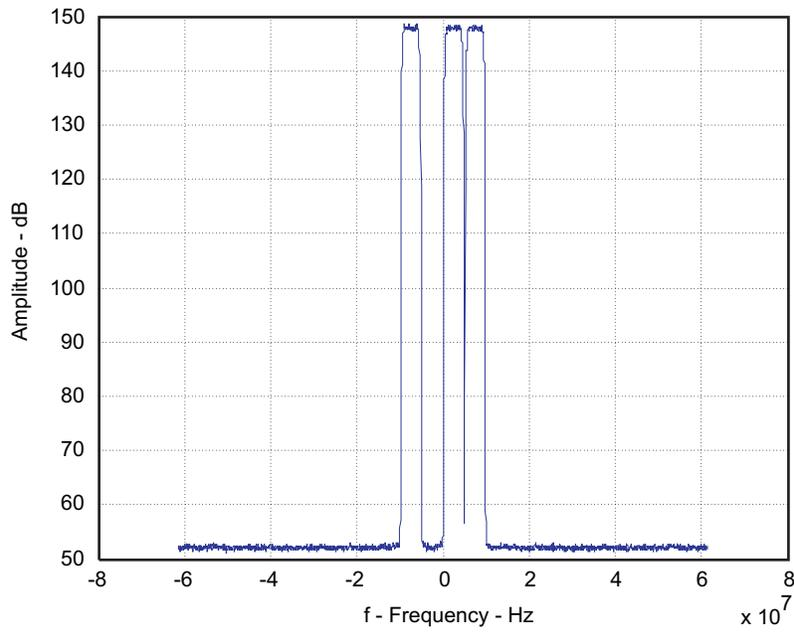
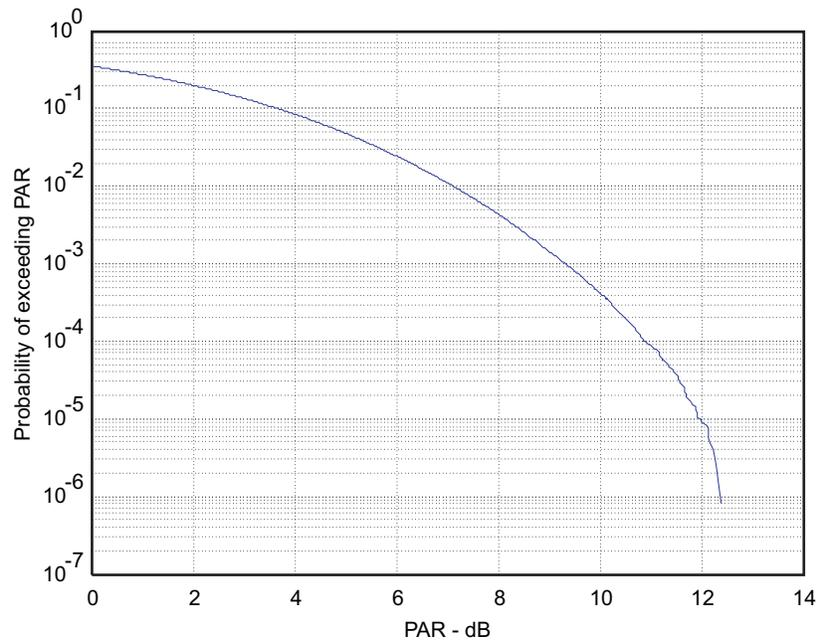

Figure 25. FFT of Three-Carrier WCDMA TM1 Pattern
Figure 26. CCDF of Three-Carrier WCDMA TM1 Pattern
4. Click the **Create** button. The CCDF and FFT windows display the signal characteristics shown in Figure 25 and Figure 26.